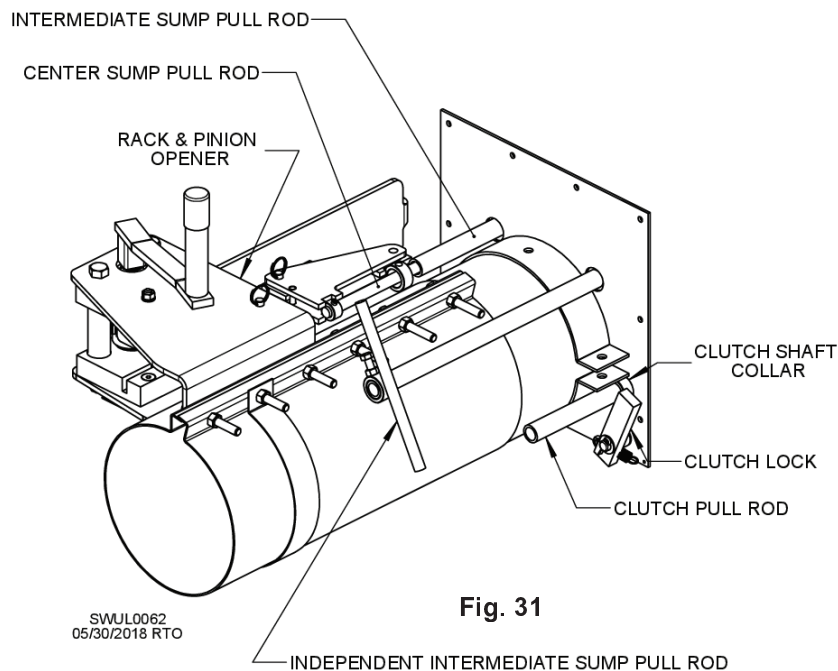

Fig. 31
2. Open intermediate sumps, allowing additional gravity flow into unloading auger. If bin has an independent intermediate sump, open it by pulling rod shown in Fig. 31.